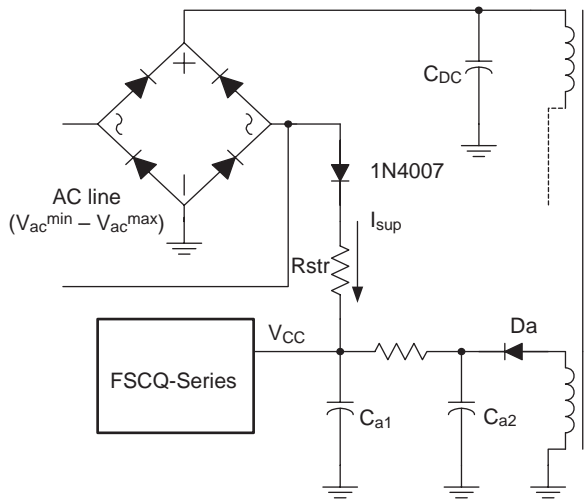
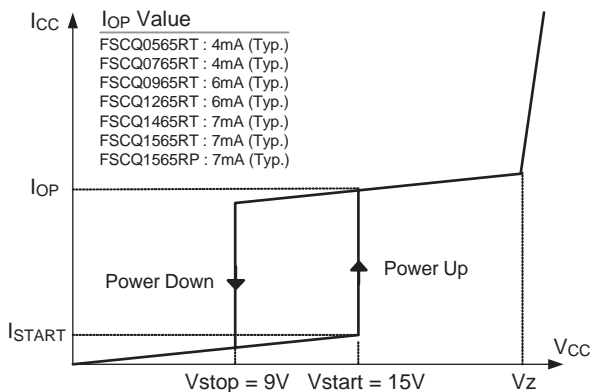

Figure 4. Startup circuit
Figure 5. Relationship Between Operating Supply Current and V_{CC} Voltage
1. Startup: Figure 4 shows the typical startup circuit and the transformer auxiliary winding for the FSCQ-Series. Before the FSCQ-Series begins switching, it consumes only startup current (typically 25μA). The current supplied from the AC line charges the external capacitor (C_{a1}) that is connected to the V_{CC} pin. When V_{CC} reaches the start voltage of 15V (V_{START}), the FSCQ-Series begins switching, and its current consumption increases to I_{OP}. Then, the FSCQ-Series continues its normal switching operation and the power required for the FSCQ-Series is supplied from the transformer auxiliary winding, unless V_{CC} drops below the stop voltage of 9V (V_{STOP}). To guarantee the stable operation of the control IC, V_{CC} has under voltage lockout (UVLO) with 6V hysteresis. Figure 5 shows the relationship between the operating supply current of the FSCQ-Series and the supply voltage (V_{CC}).